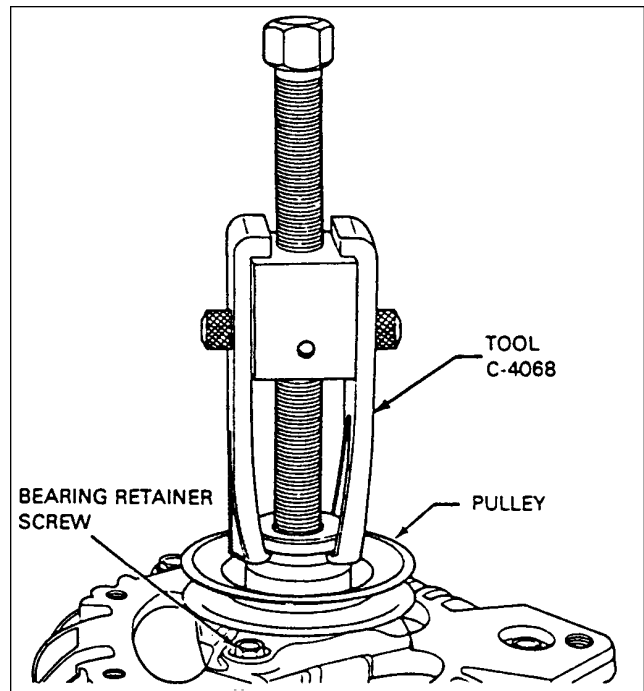

Figure 24-13. Removal of Pulley
1. Remove pulley with tool C 4068. (Refer to figure 24-13.)